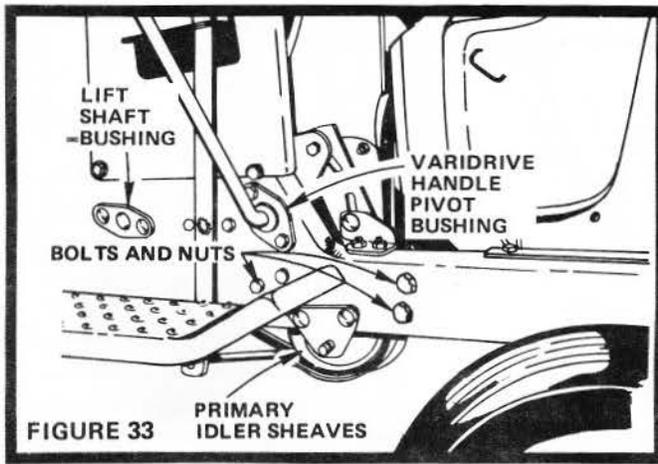

FIGURE 33
- Lift Shaft Bushings (Fig. 33).
- Varidrive Handle Pivot Bushing (Fig. 33).
- e. Remove 3 Bolts and Nuts holding Primary Idler Sheaves to Frame (Fig. 33).